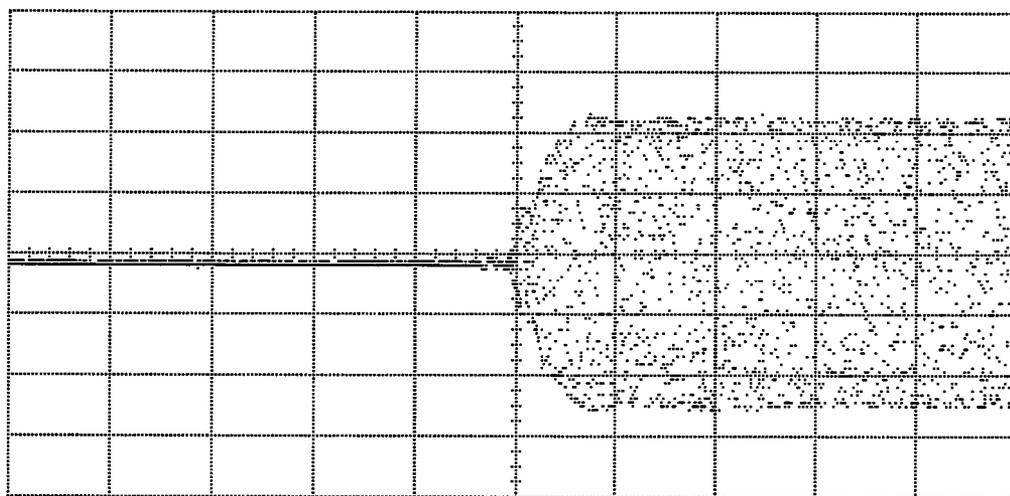

Figure 3-15. Pulse Rise Time Measurement
- Adjust the synthesizer RF output level so that the upper half of the envelope spans 2.5 vertical graticules as in Figure 3-15.
- Adjust the oscilloscope's horizontal DELAY and vertical OFFSET functions in order to position the rising edge of the pulsed RF so that the 10% and 90% points cross horizontal graticules. Refer to Figure 3-15.